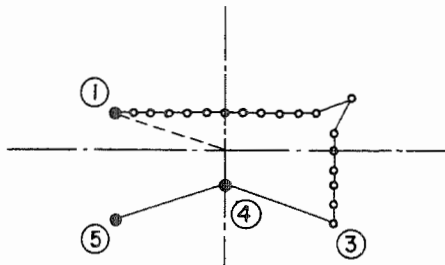

Fig. 4
Step 16 Move the needle using the key or key on the function selector section, and confirm that the needle entry point has been added as illustrated in Fig. 4.